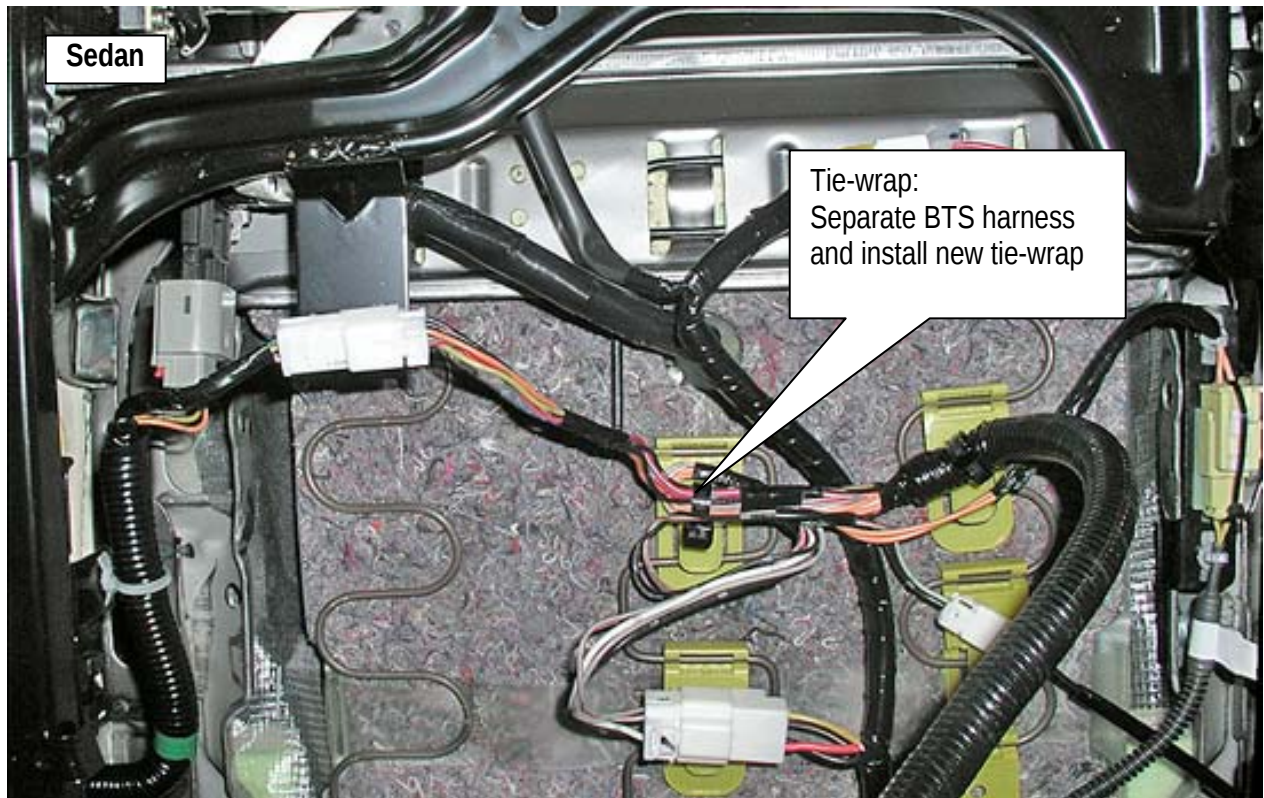

Figure 2
10. **For Sedan only:** Look under the seat, locate the tie-wrap shown in Figure 2 and separate the BTS harness from the tie-wrap as follows:
- Carefully cut / remove the tie-wrap shown in Figure 2.